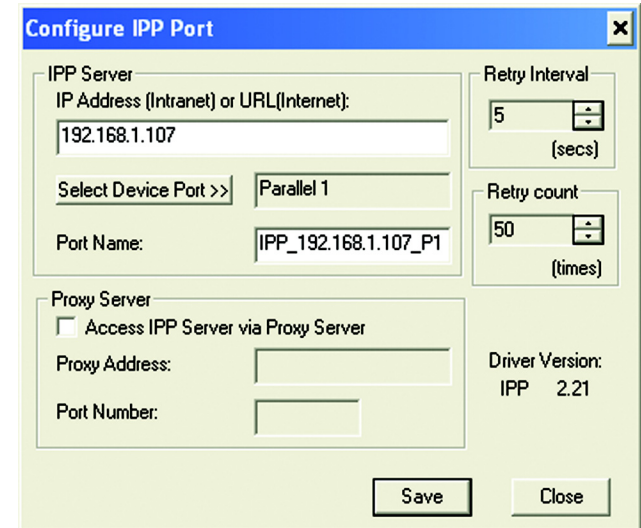

Figure 8-4: Configure IPP Port
3. Click the **Port Settings** or **Configure Port** button (Details or Port tab, depending on your version of Windows). The *Configure IPP Port* screen (shown in Figure 8-4) will appear.